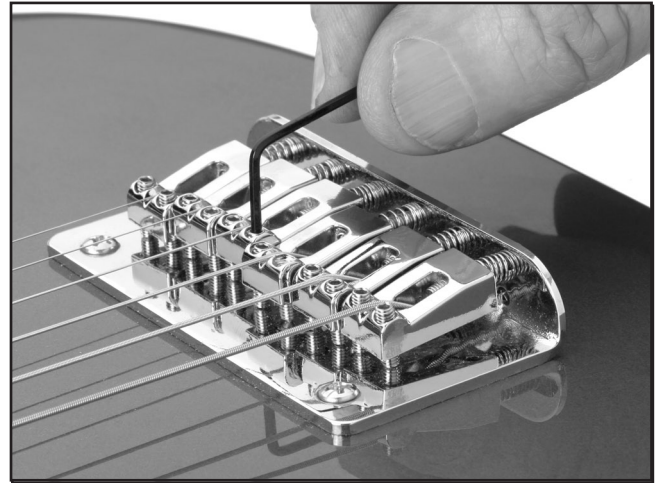

Figure 28. Adjusting string height.
2. Use a 1.5mm hex wrench to adjust the saddle height (**Figure 28**) until each string is $\frac{1}{16}$ " above the 17th fret.